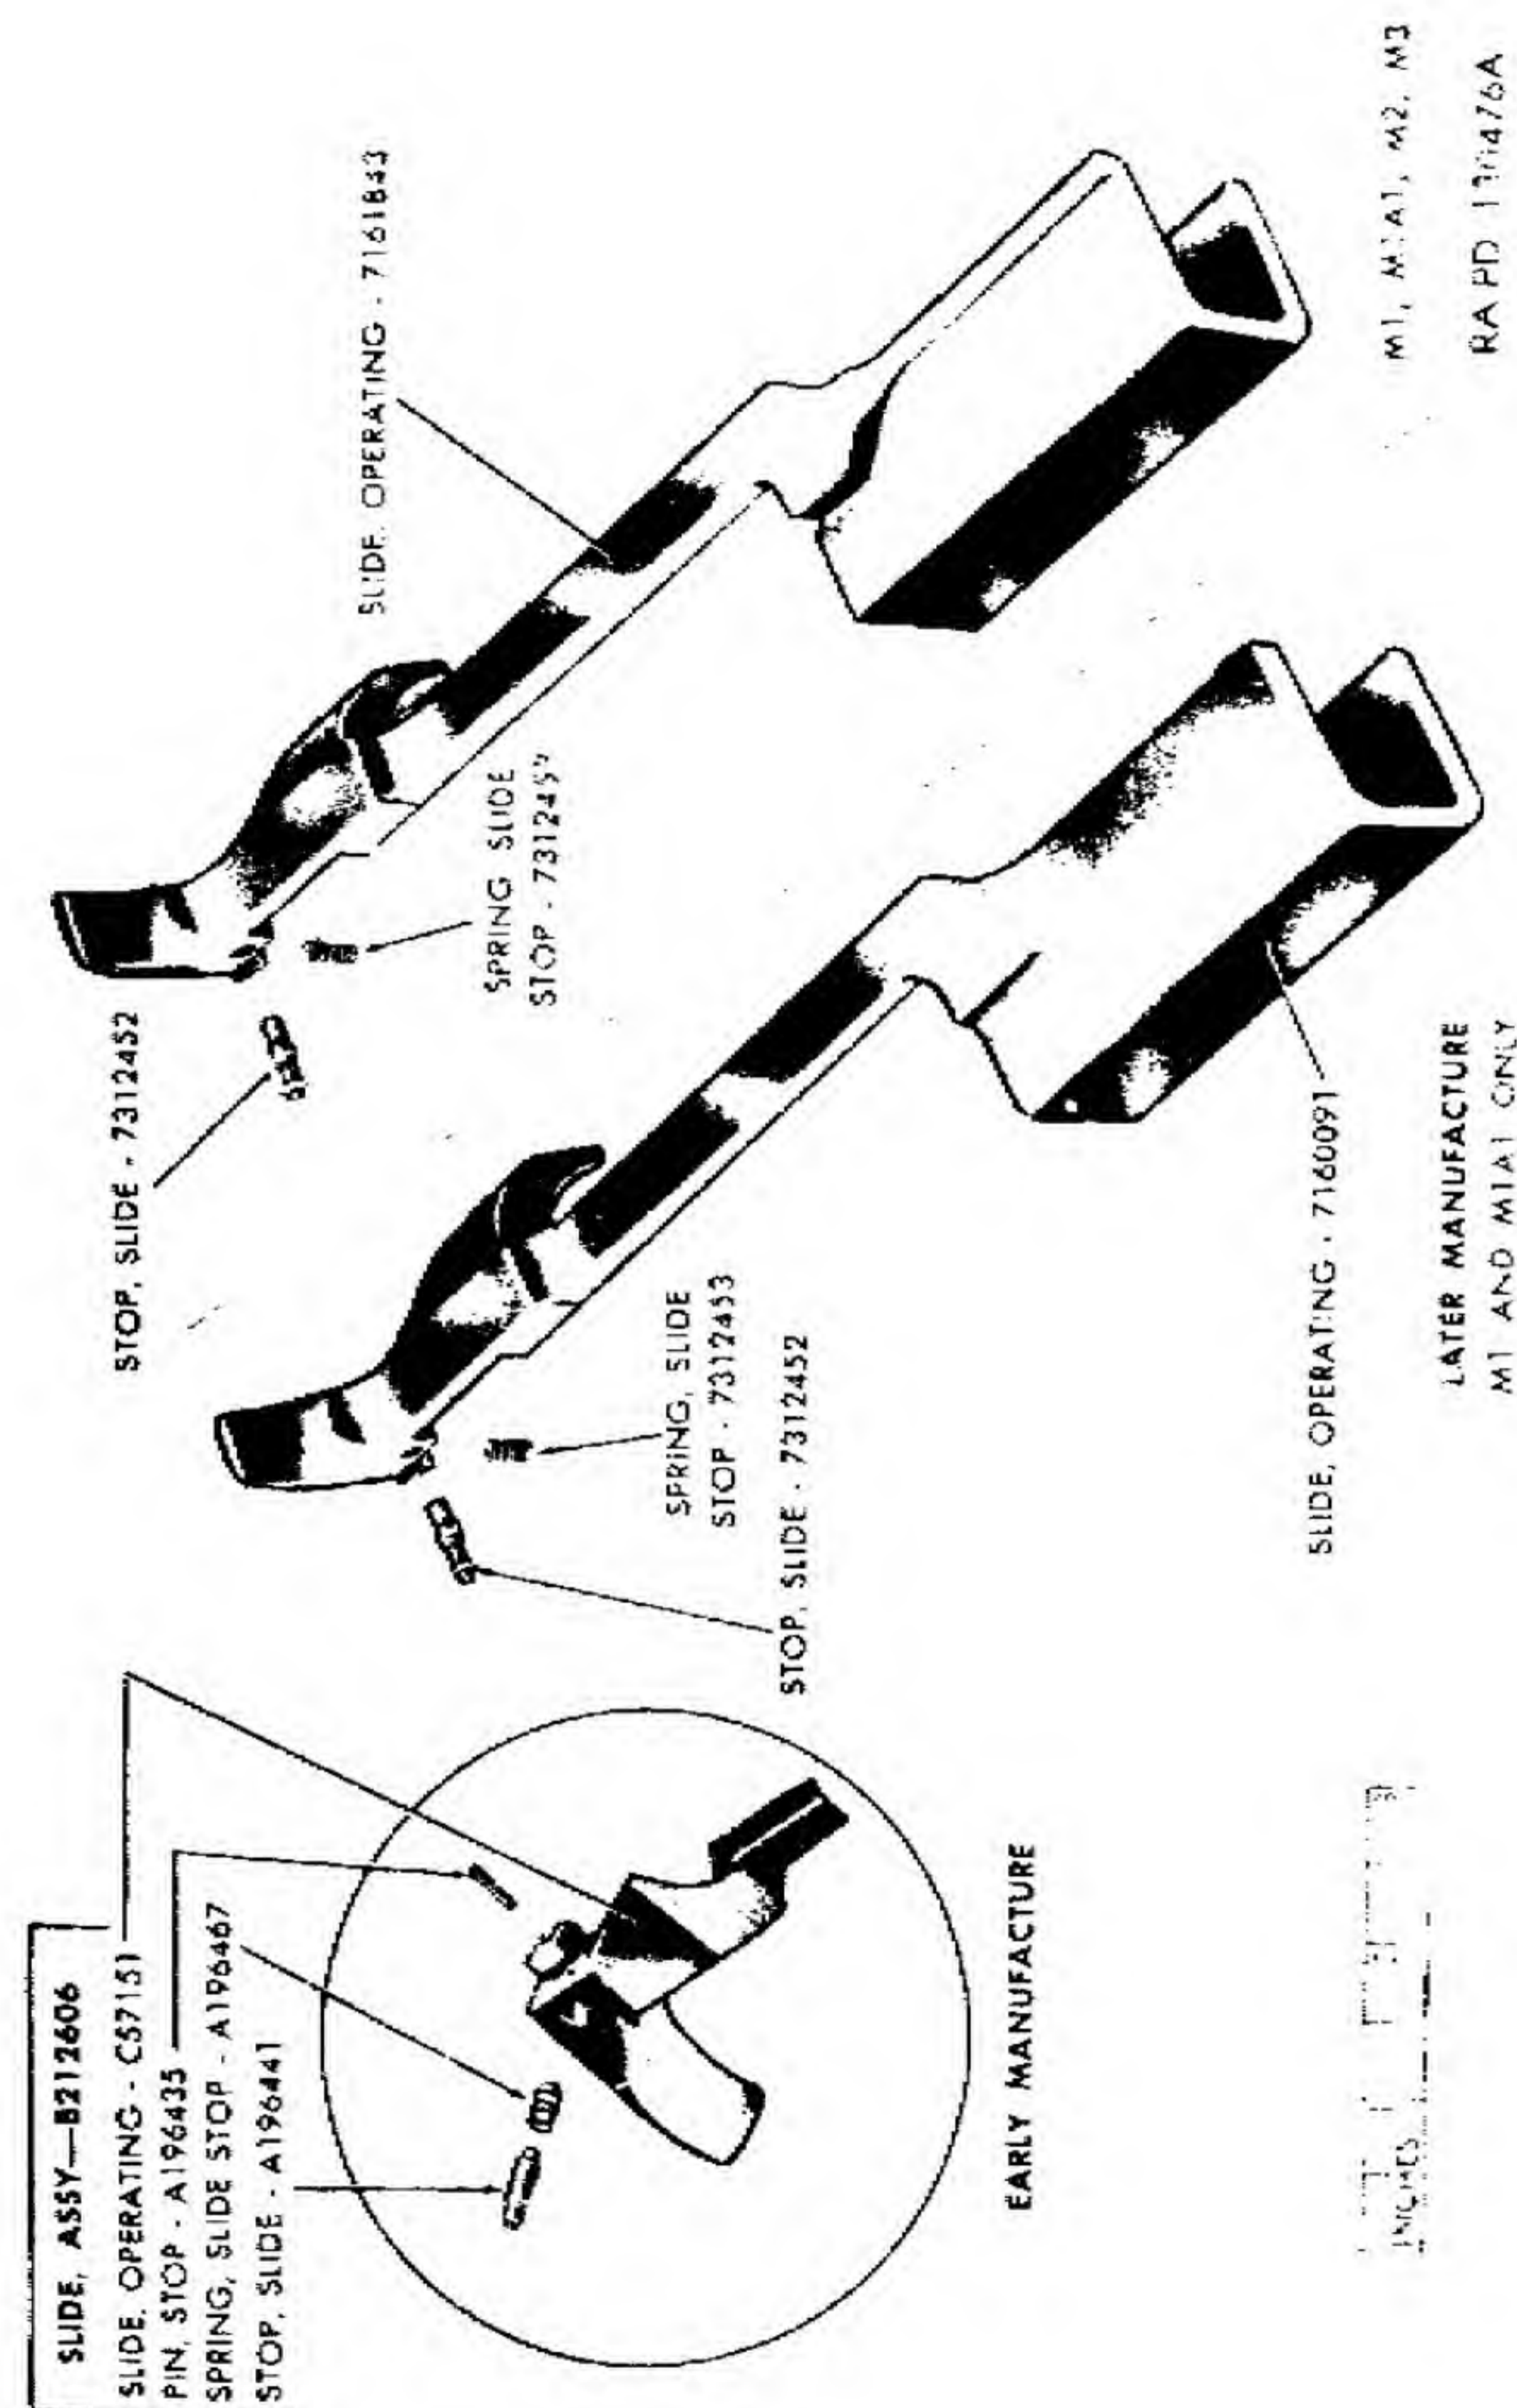

Figure 57. Operating slide assembly.
a. *Operating Slide* (fig. 57). Check slide for bent or cracked rear bar, deformation, excessively worn guide lugs, burrs, and corrosion. Inspect bolt camming lug recess for wear and burrs. Inspect spring guide seating recess in rear face for wear, burrs, and foreign matter. Inspect front face of slide where it contacts piston for levelness. Unevenness at this point may cause malfunction. Check camming surfaces for burrs and wear (fig. 58). Inspect the operating slide under "black light" for cracks in the areas specified below (DEPOT MAINTENANCE ONLY). Reject slides having cracks around the operating cam, at the junction of the inertia block and arm, and around the disconnect lever cam on M2 type slide 7161843. Check visually and reject operating slides showing breaks around the hole for the operating slide stop. Cracks at this point are acceptable. Use operating slide 5357151 (usable) or operating slide 7160091 (preferred) on carbines M1 and M1A1 until the supply is exhausted, then use 7161843 (fig. 58). Until the supply of the two former slides is exhausted, conserve operating slides 7161843 for use on carbines M2 and M3.
b. *Operating Slide Stop and Stop Spring* (fig. 57).
- (1) For depot maintenance, check to assure that stop 7312452 and spring 7312453 are used. For field maintenance, old type is satisfactory if it functions properly.
- (2) Inspect stop for wear and burrs, looseness in operating slide, and rust. Inspect stop spring for functioning, lack of friction with stop, and for set. Inspect spring for foreign matter.